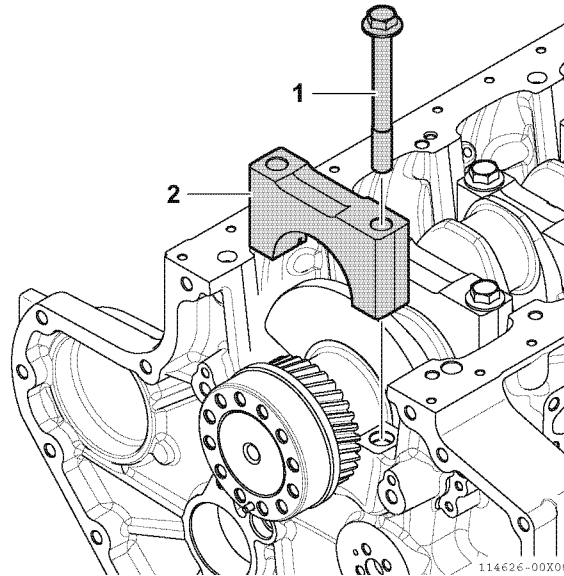

Fig.13-5
- 1 - Loosen the bearing cap bolts (1, Fig.13-5) and remove the bearing cap (2, Fig.13-5). Each bearing cap has the journal number punch mark. Make sure they can be reinstalled with the same pair.